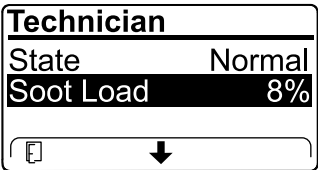

Figure 39
- View the soot load which is measured as the percentage of soot in the DPF(Figure 39); refer to the soot-load table.